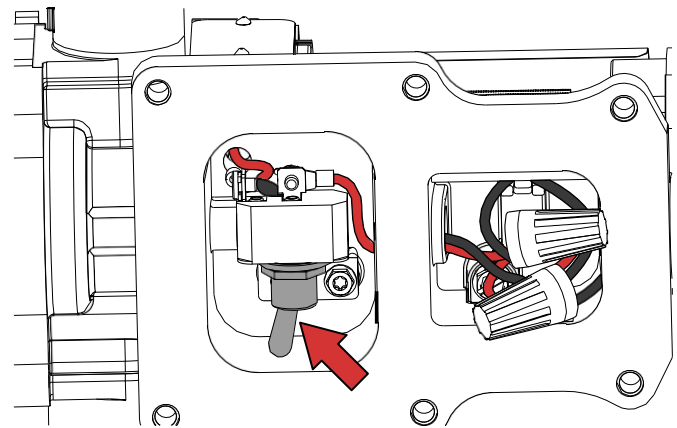

Figure 9
- Switch defective. Remove electrical cover-plate and inspect switch (Figure 9). Replace if necessary.